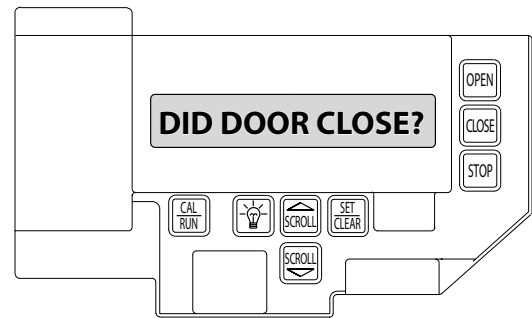

Fig. 3
- The display will read " DID DOOR CLOSE?" Figure 3.